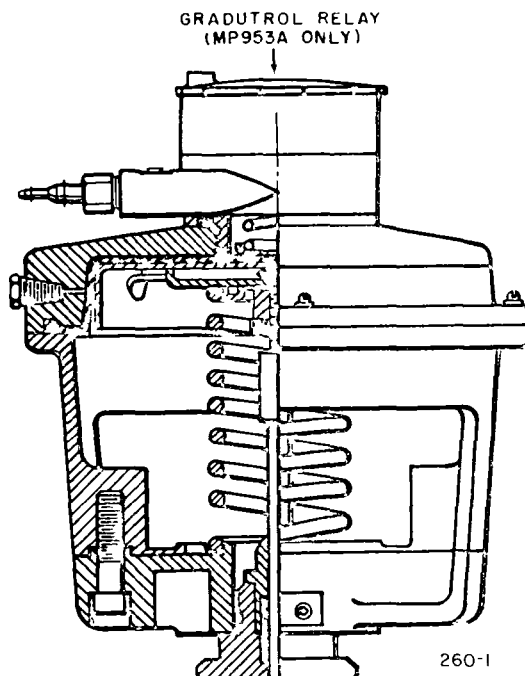

Fig 2 Details of MP953A or MP953C Operator Connected to Valve Stem
- 3 Position the stem locking slide so that the large hole is in view (Fig 2)